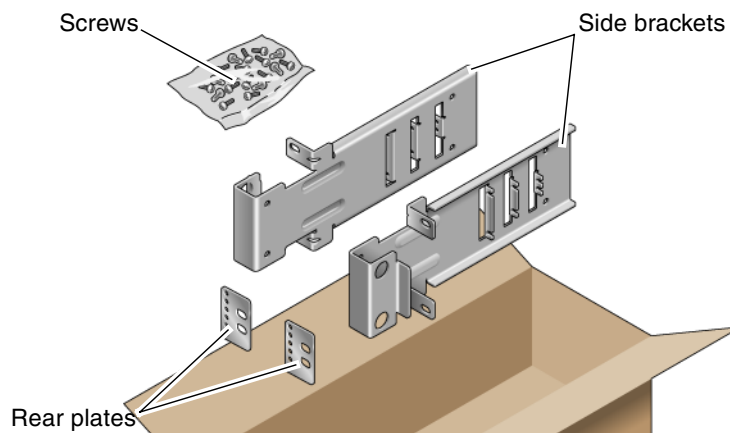

FIGURE 4-8 Contents of the Hardmount 19-Inch 2-Post Kit
1. Get the side brackets from the rack kit (FIGURE 4-8).
5. **(Optional)** If your environment contains especially high vibrations, use the rear plates to further secure the server to the rack (FIGURE 4-8).